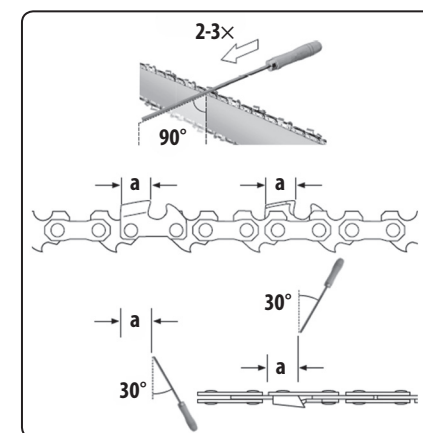

Fig. 17
- We recommend having the saw chain sharpened by a professional (authorised service centre) because this procedure requires experience and knowledge. Unprofessionally performed sharpening would damage the saw chain. A special saw chain sharpening file or special electric saw chain sharpening grinders are used for sharpening the saw chain. The sharp cutting segments of the saw chain are sharpened using a file at an angle of 30° relative to the sharp edge of the segment and the file goes on 2-3× in a single direction pass in the incline direction of the cutting edge of the segment and without pulling backwards. The sharpening principle is shown in fig. 17.